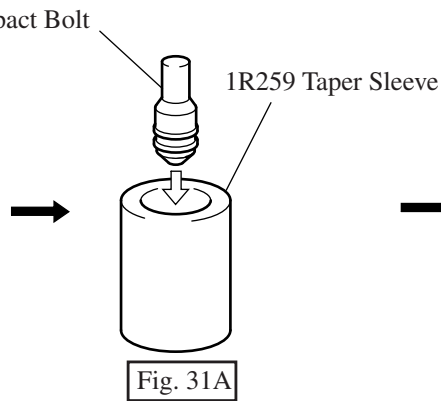

Fig. 31A
2. In order to correct the deformation, insert impact bolt with the fluoro carbon resin ring 20 into the repairing tool, Taper sleeve (No.1R259) and leave it in the repairing tool at least 10 seconds. (see Fig. 31A)